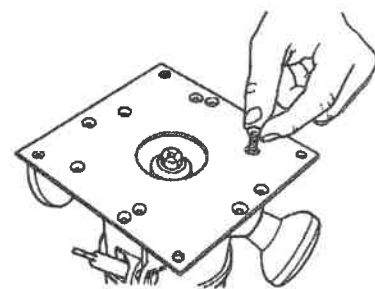

Fig. A-18
- i. Place the Joint-Matic's mounting plate on top of your router's base and finger-start all the screws to see if you had accurately drilled the holes, as in Fig. A-18. If you misjudged either the location of a hole, OR the router's collet is not in the center of the mounting plate's hole, re-do the preceding steps now. If your holes align and the collet is centered, proceed to Step j.